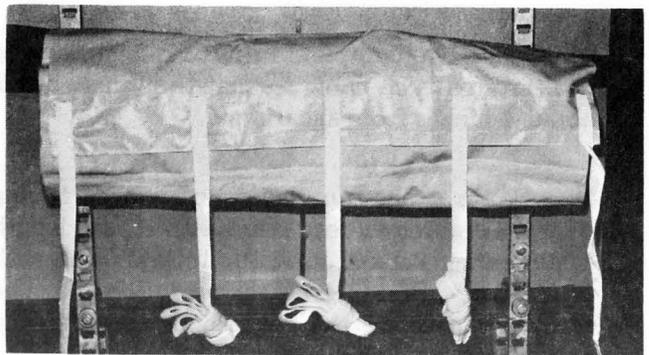

Fig. 19
3. Pull the top of the cover down and tightly wrap the CR boot. Mate Velcro strips to hold boot cover in place. (See Fig. 19.)